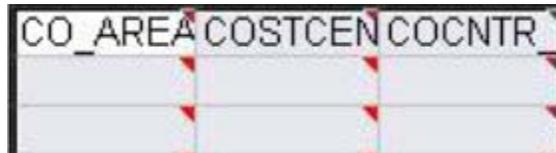

Figure 19
15. The excel sheet will change and will have red triangles in the right upper corner where there is ReportWorX Data and it will contain the Column Header. See Figure 19 (above).